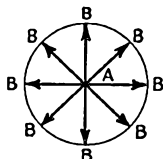

FIG. 2
In Fig. 2 the same disc has the current entering at the center and flowing radially out toward the edge. Here we have several things occurring, all tending to decrease the effective inductance: (1) the current paths are shorter; (2) the currents in radial elements of the surface are equal; (3) for every current path there is a corresponding path in the opposite direction. Item (3) is most important because it means that all voltages of self-induction will be almost completely cancelled out. It is for this reason that the end plate of a coaxial cavity (short-circuited concentric line) can be considered to have negligible inductance even though its dimensions are comparable to the length of the inner conductor.